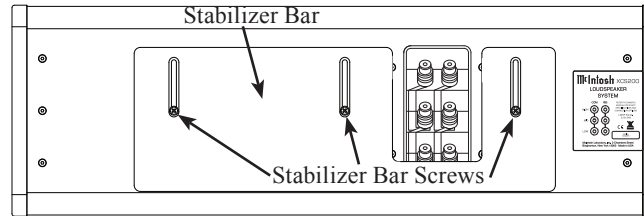

Figure 6
- Using an appropriate tool, remove the three screws securing the Stabilizer Bar to the back of the XCS200. Refer to figure 6. Replace the just removed screws with the supplied Stabilizer Bar Replacement Screws as indicated as Location-R. Refer to figures 5 and 7.